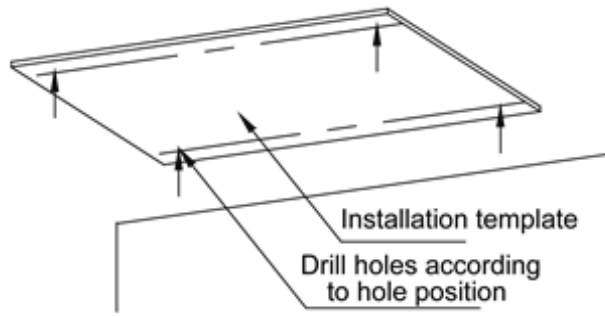
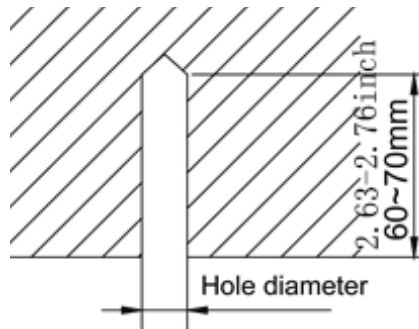

Fig. 4.8
Fig. 4.9
- (1) Attach the installation template at the installation position. Drill 4 holes at the installation position basing on the installation template as shown in Fig. 4.8. Please refer to the diameter of expansion bolt for the diameter of hole with depth of 60-70mm (2-1/2 – 2-3/4inch). As shown in Fig. 4.9.